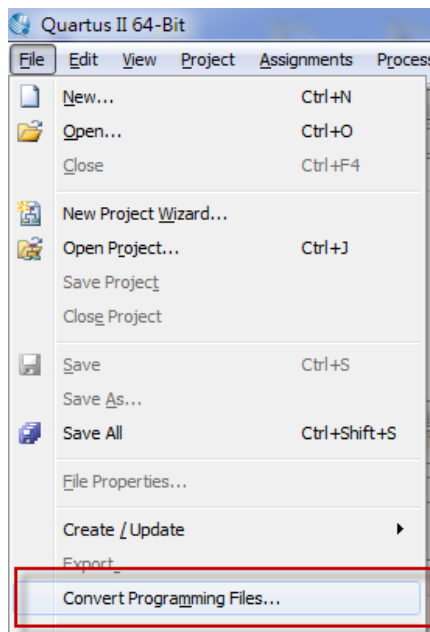

Figure 8-13 File menu of Quartus II
1. Choose **Convert Programming Files** from the File menu of Quartus II, as shown in **Figure 8-13**.